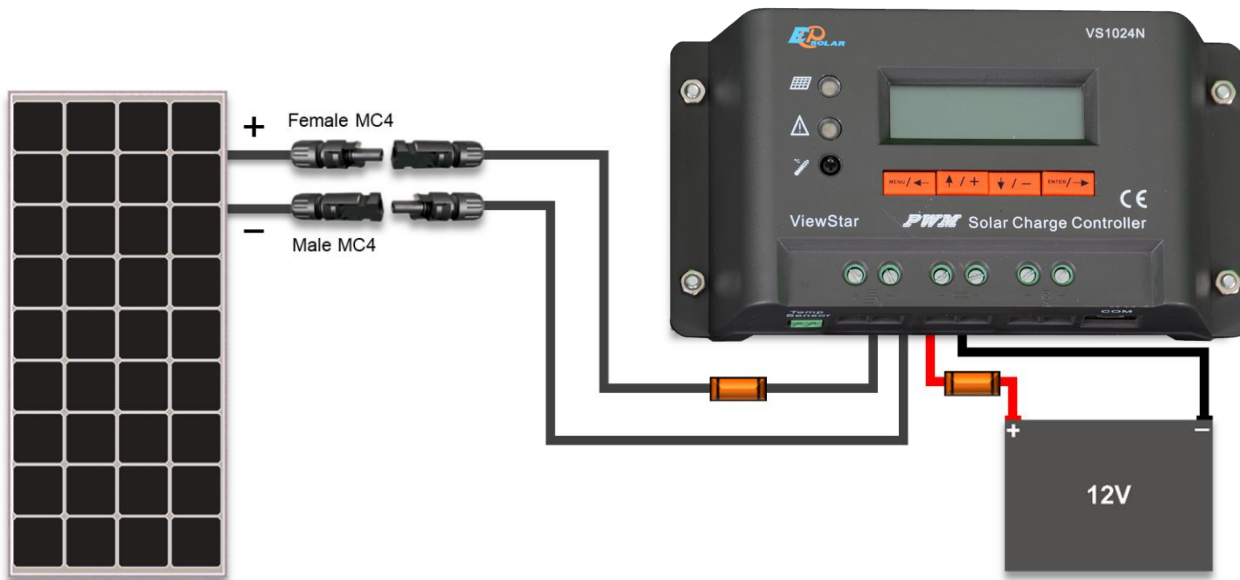

Figure 6.4 Completed 12V off-grid system
Please refer to **Figure 6.4** when completing the following connections:
1. First, mate the “Male” MC4 Connector from the solar panel that has the **negative (-)** label with the “Female” MC4 Connector of your adapter kit as shown in **Figure 6.4**. Then connect the bare stranded portion of the cable to the **negative (-)** solar input terminal on the charge controller.
2. Next, mate the “Female” MC4 connector from the panel that has the **positive (+)** label with the “Male” MC4 connector of your adapter kit as show in **Figure 6.4**.
Figure 6.4 shows the complete wiring of a typical off-grid system. It includes fuses for safety and protection. This configuration shows only one panel and one battery connected to the controller. In **Sections 8 and 9**, more panel and battery configurations (respectively) will be described. Instructions will follow.